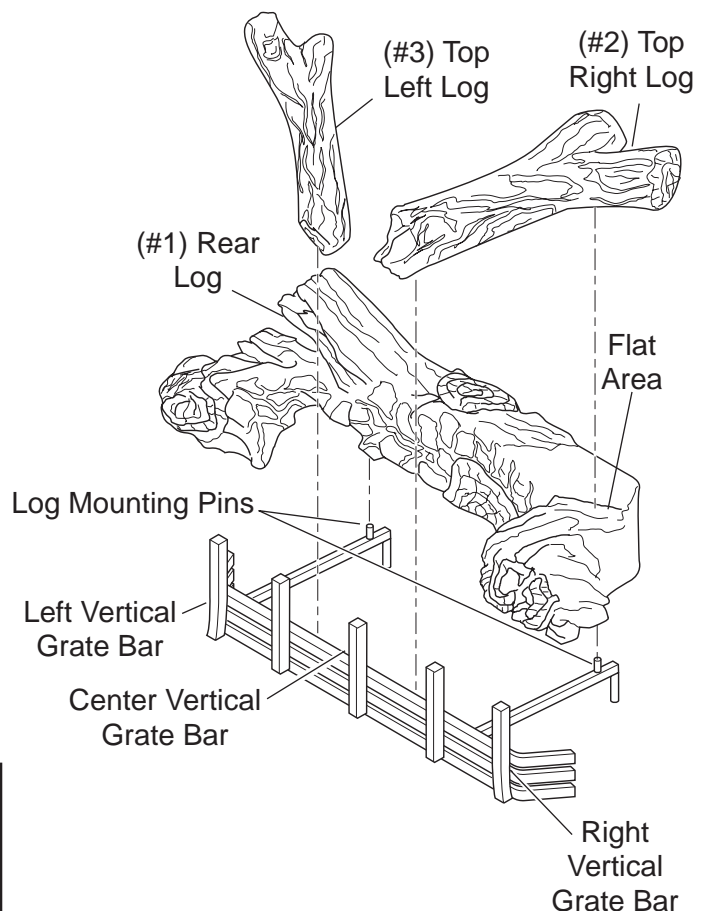

Figure 41 - Log Placement (BDV300, 400 shown)
1. Place rear log (#1) on grate assembly. Log should rest firmly on the two log mounting pins on the bars. See *Figure 41*.
2. Place top right log (#2) on the rear log. Rest the right back side of the log in the flat area of the rear log. Place the narrow front end of the log next to the center vertical grate bar. See *Figure 41*.
3. Place the top left log (#3) on the rear log. Nest the forked end of the top left log into the fork or the rear log. Rest the narrow end of the top left log behind the center vertical grate bar. See *Figure 41*.